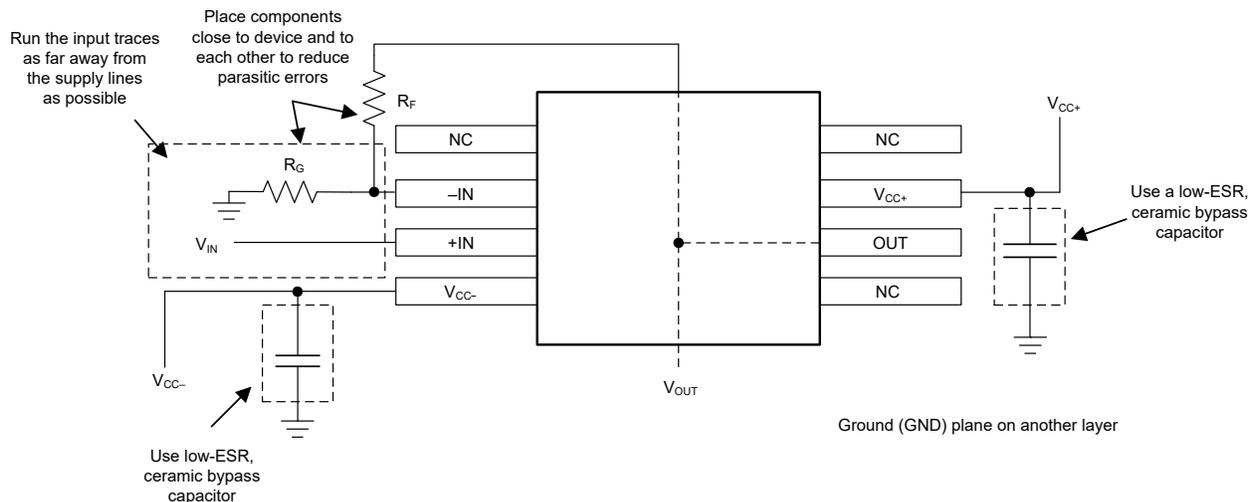

Figure 6-4. Operational Amplifier Board Layout for Noninverting Configuration
4. Place the external components as close to the device as possible. Figure 6-4 shows how to keep R_F and R_G close to the inverting input to minimize parasitic capacitance.